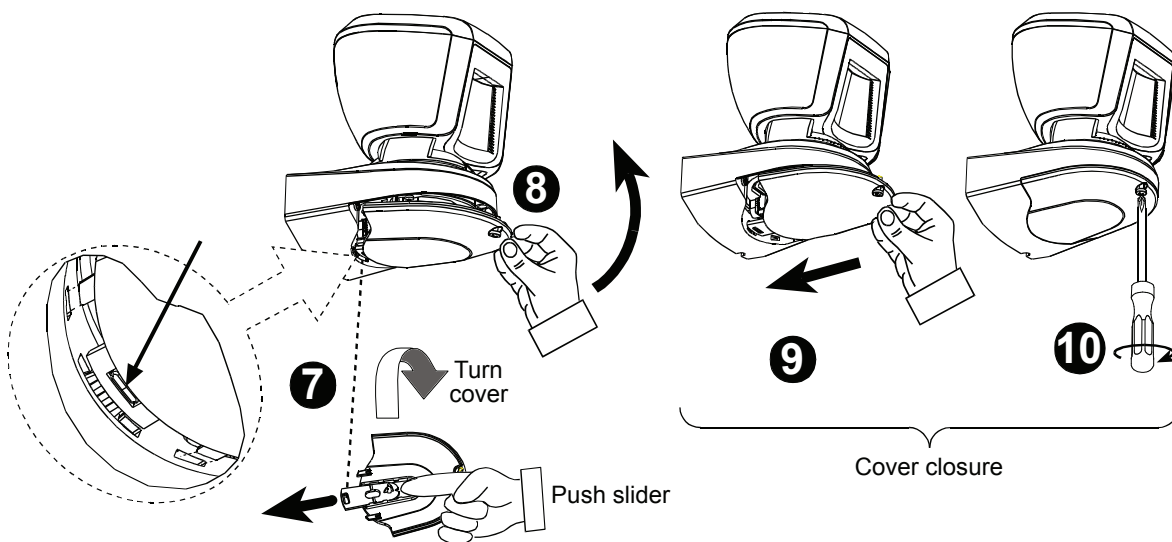

Figure 5 - Adjustment and Cover Closure
- B. Adjust detector's horizontal and vertical angles (see Fig. 5), according to the surveyed ground surface. The vertical angle indicator position for various installation height and coverage distance combinations is detailed in Table 2 (the information refers to a relatively flat surveyed area. however, in any case the vertical adjustment should be verified by walk-test).
3.6 Cover Closure (see Fig. 5, steps 7-10)